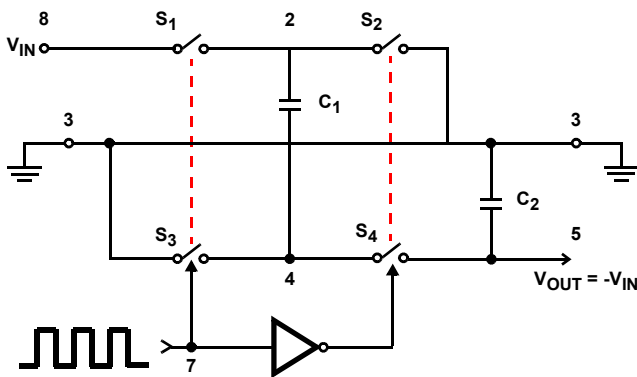
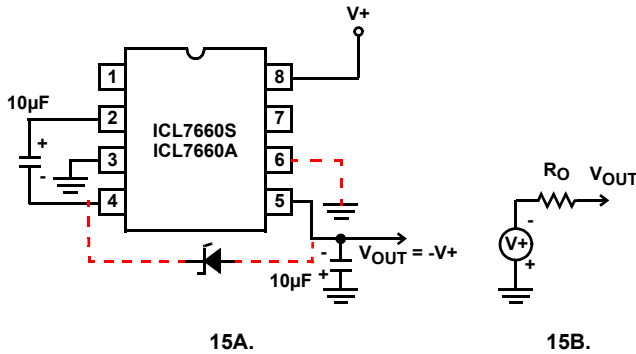
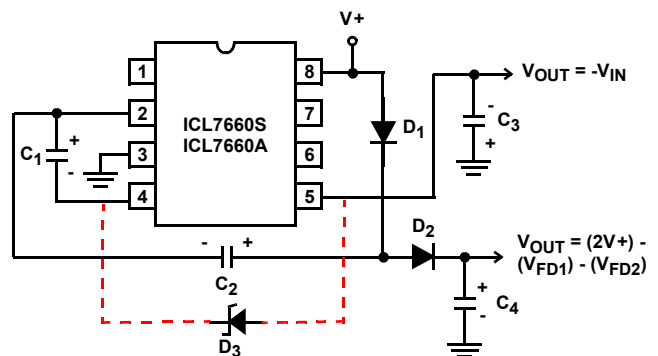

FIGURE 14. IDEALIZED NEGATIVE VOLTAGE CONVERTER
FIGURE 15. SIMPLE NEGATIVE CONVERTER AND ITS OUTPUT EQUIVALENT
FIGURE 19. COMBINED NEGATIVE VOLTAGE CONVERTER AND POSITIVE DOUBLER
The ICL7660S and ICL7660A contain all the necessary circuitry to complete a negative voltage converter, with the exception of two external capacitors, which may be inexpensive 10 μ F polarized electrolytic types. The mode of operation of the device may best be understood by considering Figure 14, which shows an idealized negative voltage converter. Capacitor C₁ is charged to a voltage, V₊, for the half cycle, when switches S₁ and S₃ are closed. (Note: Switches S₂ and S₄ are open during this half cycle). During the second half cycle of operation, switches S₂ and S₄ are closed, with S₁ and S₃ open, thereby shifting capacitor C₁ to C₂ such that the voltage on C₂ is exactly V₊, assuming ideal switches and no load on C₂. The ICL7660S and ICL7660A approach this ideal situation more closely than existing non-mechanical circuits.
In the ICL7660S and ICL7660A, the four switches of Figure 14 are MOS power switches; S₁ is a P-Channel device; and S₂, S₃ and S₄ are N-Channel devices. The main difficulty with this approach is that in integrating the switches, the substrates of S₃ and S₄ must always remain reverse biased with respect to their sources, but not so much as to degrade their “ON” resistances. In addition, at circuit start-up, and under output short circuit conditions (V_{OUT} = V₊), the output voltage must be sensed and the substrate bias adjusted accordingly. Failure to accomplish this would result in high power losses and probable device latch-up.
where V₁ and V₂ are the voltages on C₁ during the pump and transfer cycles. If the impedances of C₁ and C₂ are relatively high at the pump frequency (see Figure 14) compared to the value of R_L, there will be a substantial difference in the voltages, V₁ and V₂. Therefore it is not only desirable to make C₂ as large as possible to eliminate output voltage ripple, but also to employ a correspondingly large value for C₁ in order to achieve maximum efficiency of operation.
The majority of applications will undoubtedly utilize the ICL7660S and ICL7660A for generation of negative supply voltages. Figure 15 shows typical connections to provide a negative supply where a positive supply of +1.5V to +12V is available. Keep in mind that pin 6 (LV) is tied to the supply negative (GND) for supply voltage below 3.5V.
The output characteristics of the circuit in Figure 15 can be approximated by an ideal voltage source in series with a resistance as shown in Figure 15B. The voltage source has a value of $-(V_+)$. The output impedance (R_O) is a function of the ON resistance of the internal MOS switches (shown in Figure 14), the switching frequency, the value of C_1 and C_2 , and the ESR (equivalent series resistance) of C_1 and C_2 . A good first order approximation for R_O is shown in Equation 2:
Figure 19 combines the functions shown in Figure 15 and Figure 18 to provide negative voltage conversion and positive voltage doubling simultaneously. This approach would be suitable, for example, for generating +9V and -5V from an existing +5V supply. In this instance, capacitors C_1 and C_3 perform the pump and reservoir functions, respectively, for negative voltage generation, while capacitors C_2 and C_4 are pump and reservoir, respectively, for the doubled positive voltage. There is a penalty in this configuration which combines both functions, however, in that the source impedances of the generated supplies will be somewhat higher, due to the finite impedance of the common charge pump driver at pin 2 of the device.
resistor to the LV pin ensures start-up. Because the switches share the load in parallel, the output impedance is much lower than in the standard circuits, and higher currents can be drawn from the device. By using this circuit, and then the circuit of Figure 15, +15V can be converted, via +7.5 and -7.5, to a nominal -15V, although with rather high series output resistance (~250Ω).